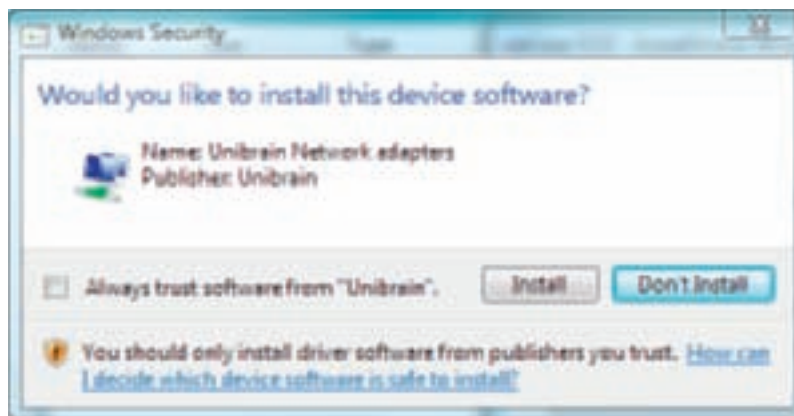

Figure 9-76 Windows recognizes the drivers and asks for your permission to install them
6. During the installation, Windows will ask you if you want to install the drivers. If the Microsoft Windows Hardware Quality Labs (WHQL) have certified the drivers, the Vista message will look like the one in Figure 9-76. (Later in the chapter, you will see a message indicating drivers are not certified by Microsoft.) Even though drivers have not been certified by Microsoft, it is safe to click **Install this driver software anyway** to continue with the installation.